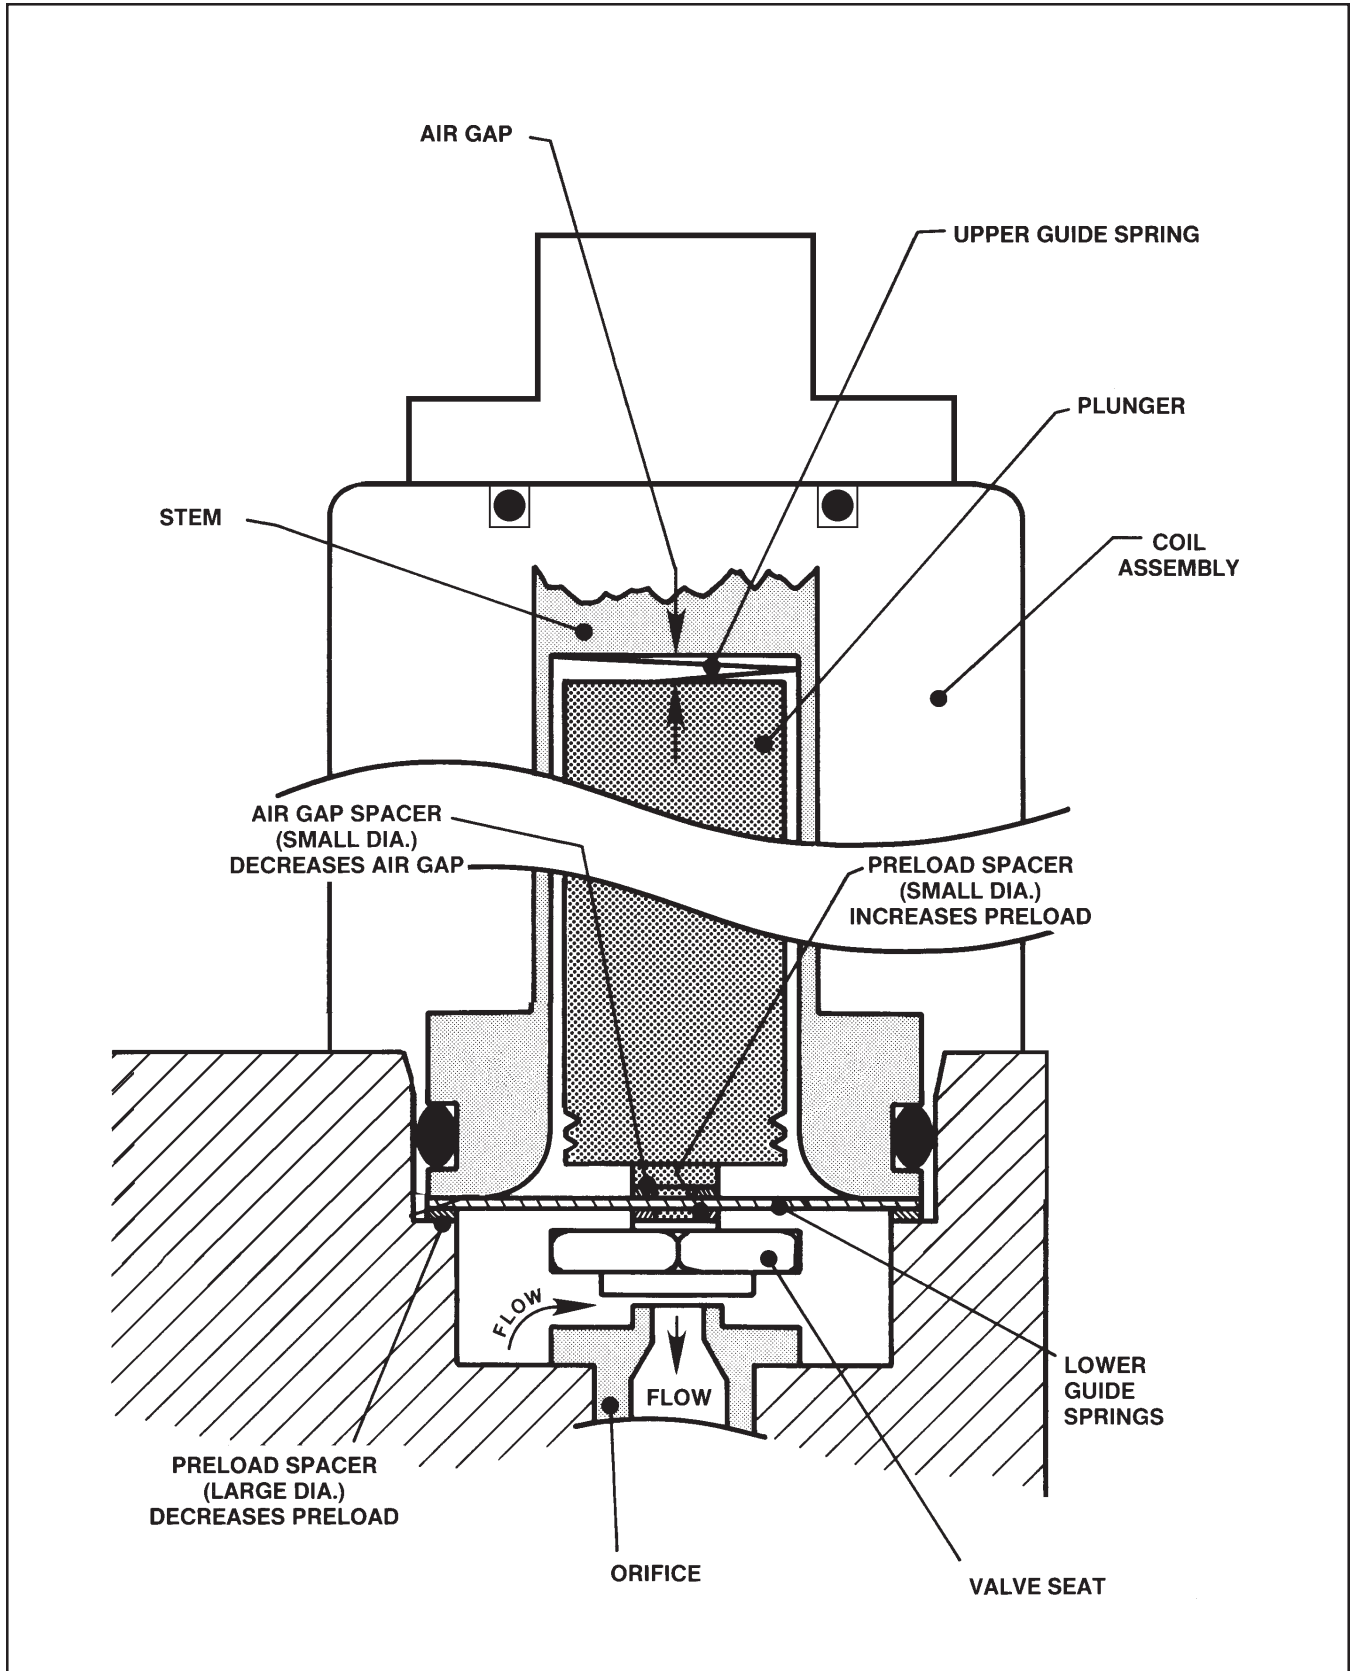

Figure 4-3a Valve Adjusting Spacer Locations (Normally Closed Valve)
The Mf Series control valve has been factory adjusted to insure proper operation. Readjustment is only required if any of the following parts have been replaced: (Refer to Figure 4-3a).
The valve is adjusted in Brooks Mass Flow Controllers by adding spacers (28A and 28B) to the control valve assembly to vary the air gap and initial preload. Spacers are used to affect the proper adjustment because they provide a reliable and repeatable means for adjustment. Screw type adjustment mechanisms can change with pressure or vibration and introduce an additional dynamic seal that is a potential leak site and source for contamination. (Refer to Figure 4-3a) for spacer locations.
- a. Remove the electronics housing (6) from the controller. Insure that the connector from the coil assembly (15) is properly reconnected to the PC board after the electronics cover is removed.
- d. Decrease the preload of the valve by 0.005 inches by either removing a 0.005-inch small preload spacer or by adding a 0.005-inch large preload spacer. Refer to Figure 4-3a.